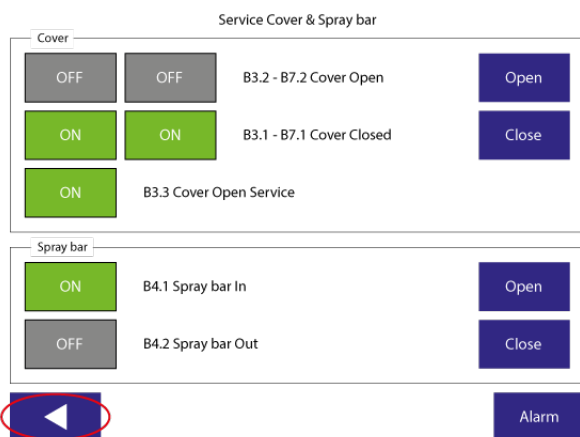

Figure 7.10 Service Cover & Spray bar menu.
3. Click the Back arrow to go back a step, see Figure 7.10.